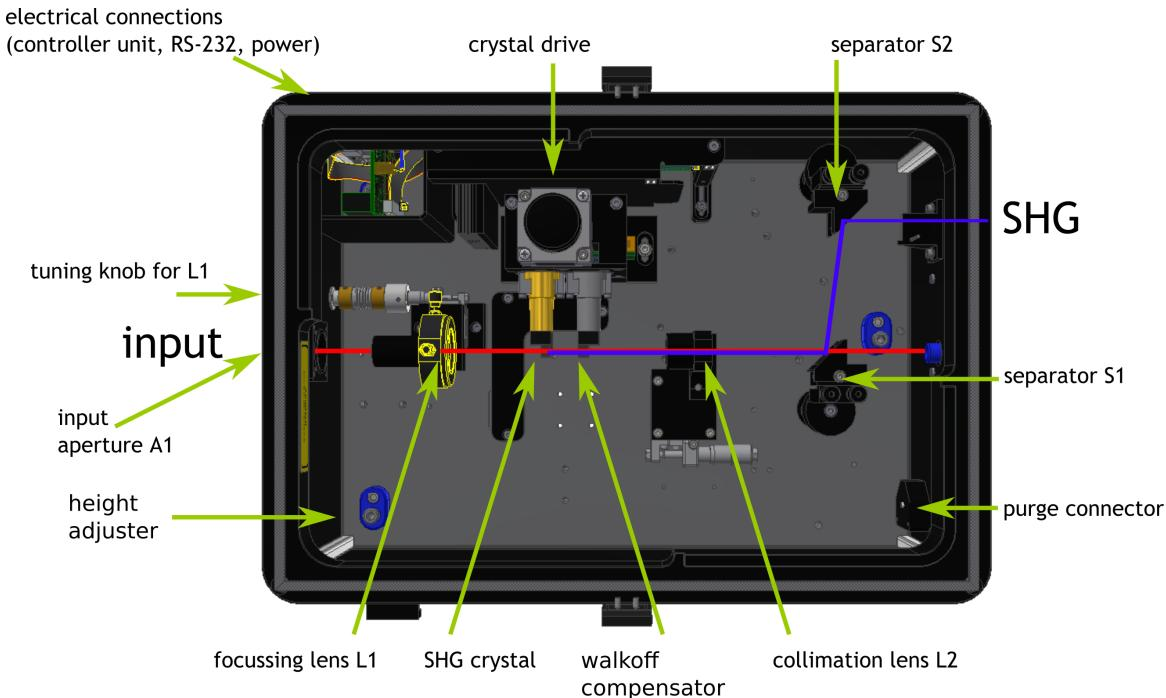

Figure 2.2: Optical Layout of the HarmoniXX SHG .
Figure 2.2 shows the layout of the HarmoniXX SHG optical unit. After passing the input aperture A1 the laser beam is focused by the lens L1. This generates a beam waist with high energy density in the doubling crystal (SHG crystal). An efficient non-linear optical interaction takes place if the phase matching condition is fulfilled (optical axis of the bi-refringent crystal under a certain, wavelength defined angle with respect to the incoming beam), and frequency doubled radiation is generated (SHG).
- Level the optical unit to the height of the laser beam using the three height adjusters inside the optical unit (marked blue in Fig: 2.2 and 3.1).